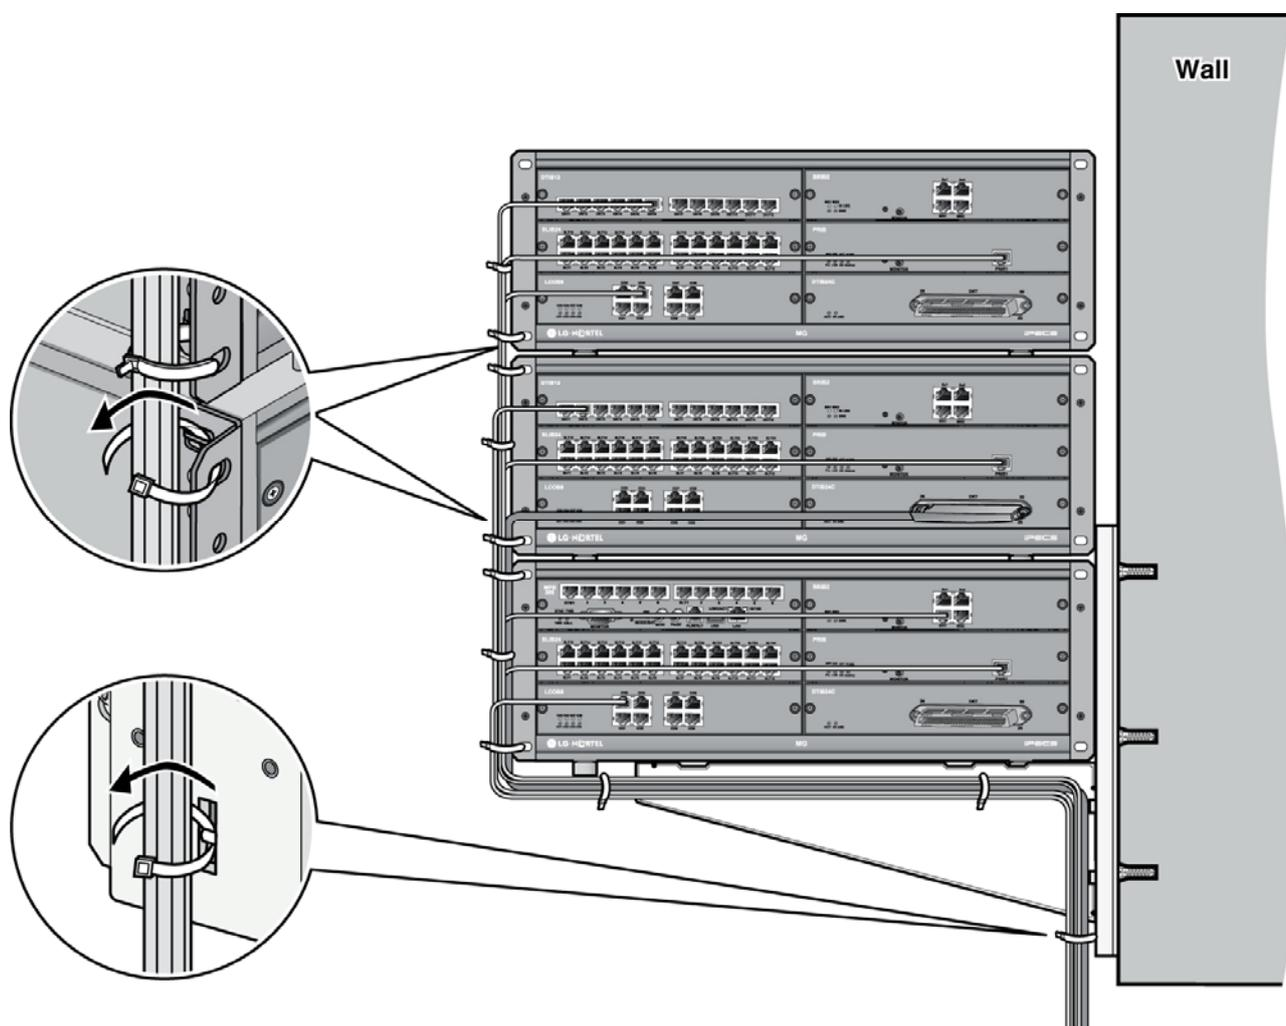

Figure 5.2.1 Wall Mount Wiring
2. Connect cables to the CO/STA port and the MOH/LAN/RS-232C ports as shown in Figure 5.2.1.